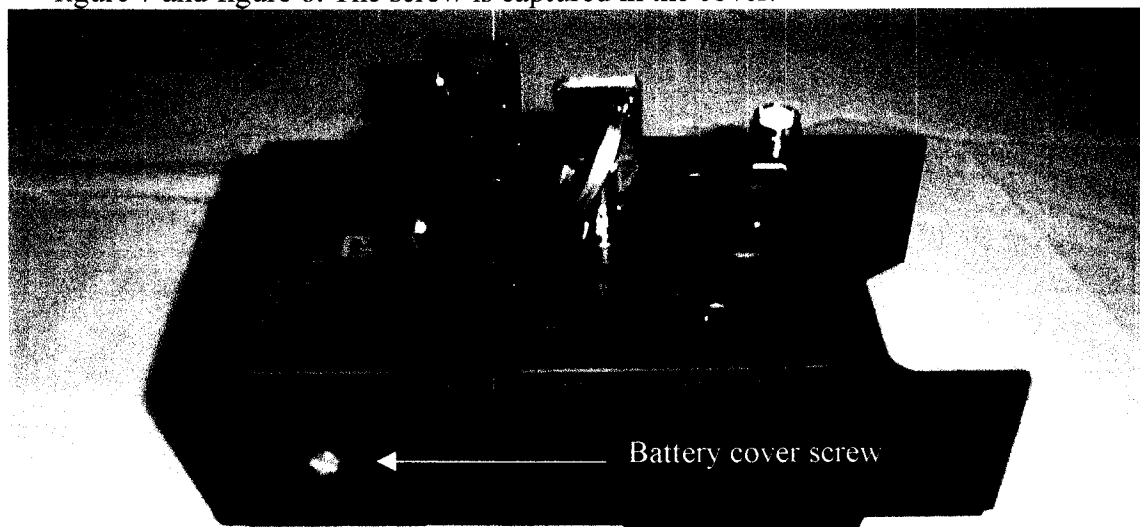
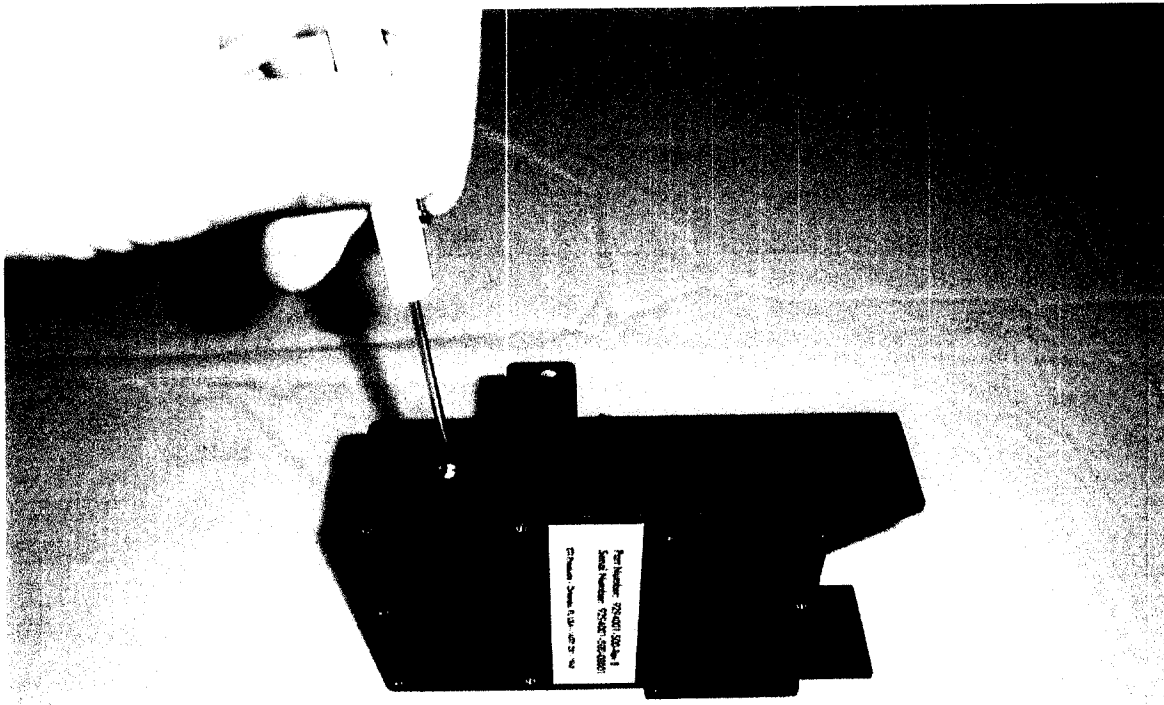

Figure 7. Battery cover screw removal
Figure 8. Battery compartment cover removal.
- a. Turn the battery cover screw with a screwdriver or coin counterclockwise, as shown in figure 7 and figure 8. The screw is captured in the cover.